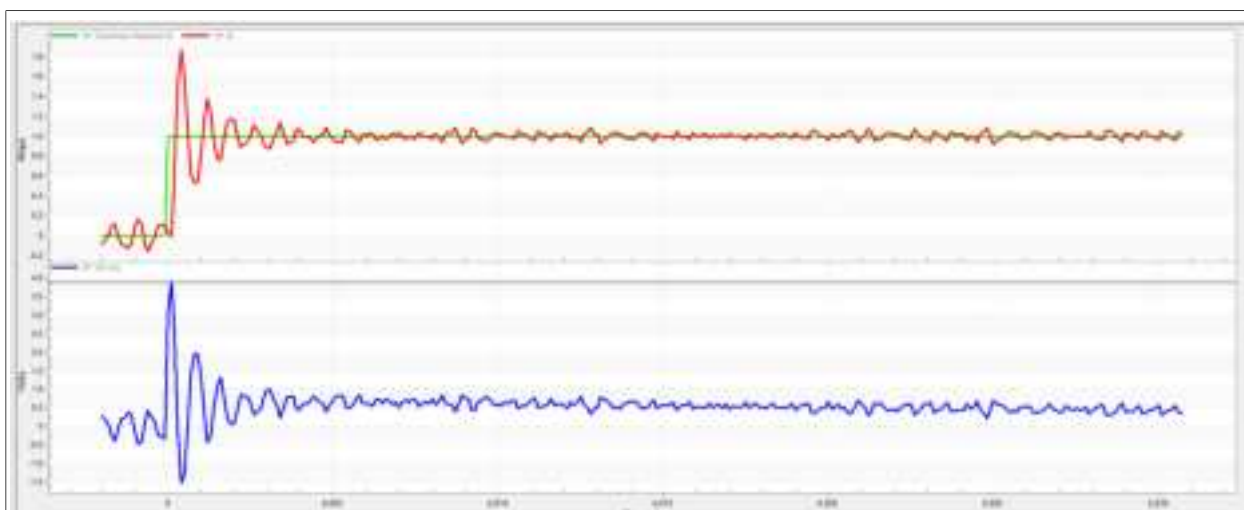

Figure 30. Fast step response of the Id current controller
- The loop bandwidth is high (700 Hz) and the response time of the Id current is very fast, but with oscillations and overshoot (Figure 30).